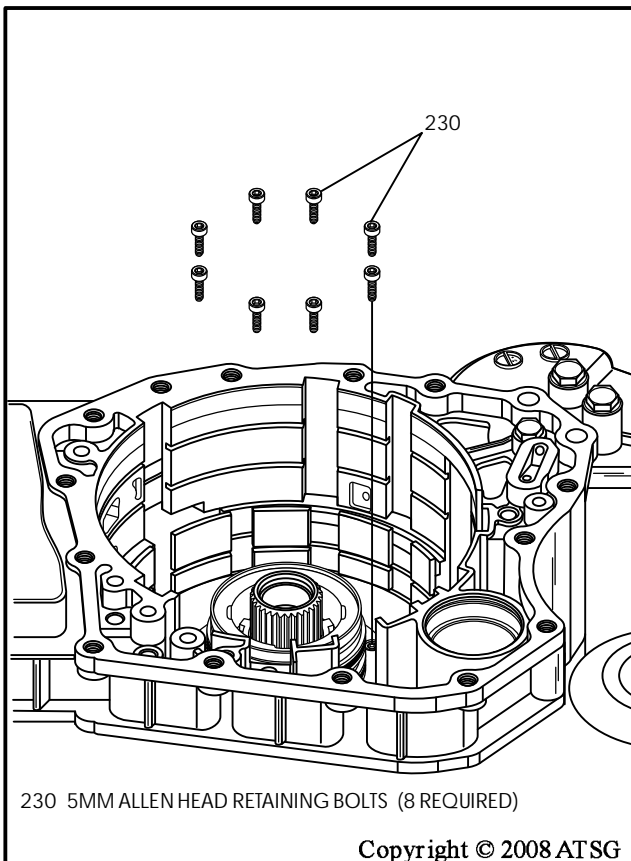

Figure 78
27. Install the eight 5mm allen head low clutch support retaining bolts, as shown in Figure 78, and torque to 9 N·m (80 in.lb.)